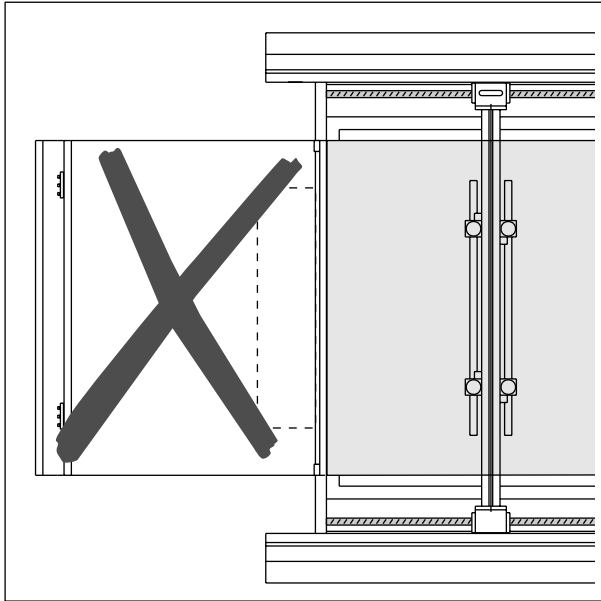

Figure 2-1. Keep clear of this area while the safety bar is closed
**Do not step into the area indicated in Figure 2-1 when the safety bar is closed.**